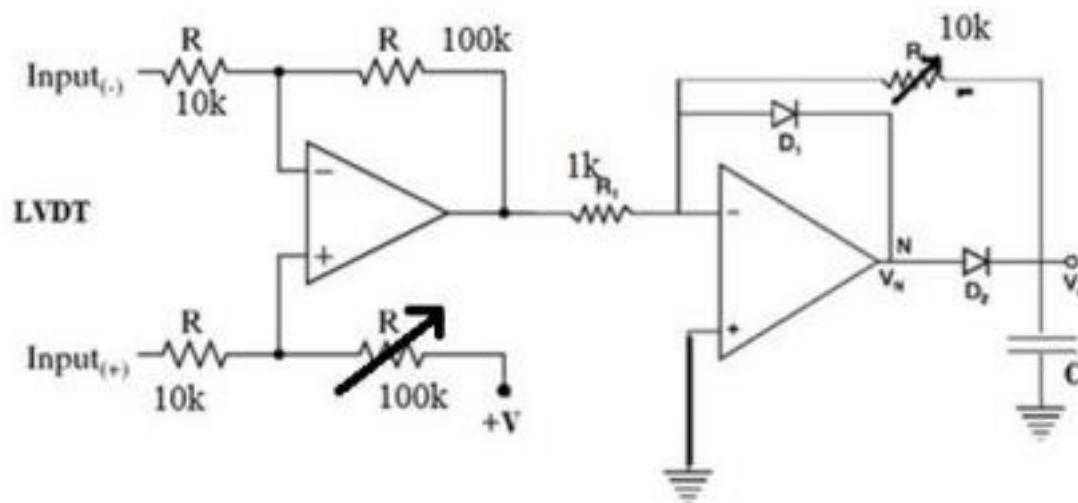

Fig.1: Signal conditioning circuit for LVDT
2. Rig up the circuit as shown in the Fig.1.